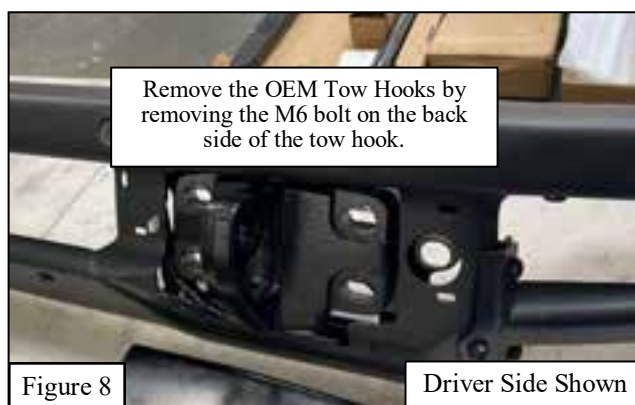

Figure 5
6. Remove the OEM Active Cruise Control Harness from the vehicle. Be careful not to tear or pinch any wires. See **Figure 5** for reference.